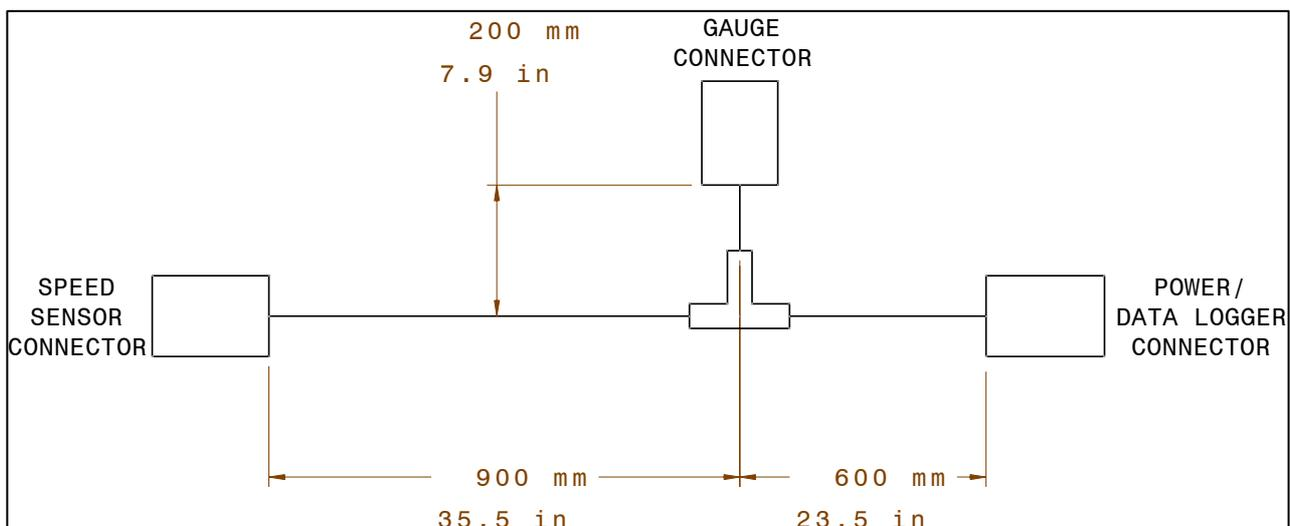

Fig. 9: Wiring Harness Diagram
9. Unpack the 3-way wiring harness and find the longest end (3 pins, approx. 35.5 in / 900mm long). This end connects to the speed sensor. Connect the harness to the sensor and lay the harness out in the engine bay to begin determining wiring harness routing. See figure 9 below.